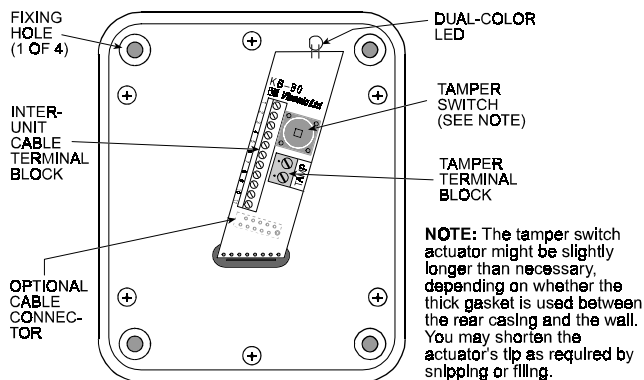

Figure 4. Rear View of the KB-81 / KB-82
- E. Connect a 10-conductor color-coded cable to the first 10 terminals of the 11-position terminal block at the back of KB-81 or KB-82 (see Figure 4). Note down the color of the wire connected to each terminal.
- L. Connect the 10 color coded wires of the inter-unit cable to the 10-position mini-terminal block on the CL-8A EXT printed circuit board (see Figure 4).
- D. Connect a 10-conductor color-coded cable to the first 10 terminals of the 11-position terminal block at the back of the KB-81 or KB-82 (see Figure 4). Note down the color of the wire connected to each terminal.